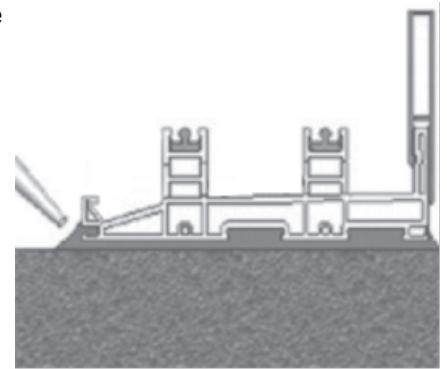

Figure 11
10. Verify the frame is still plumb in opening, then seal outside perimeter of the frame (including P-hook, if applicable) and all screws, including all seams and corners (Figure 11).